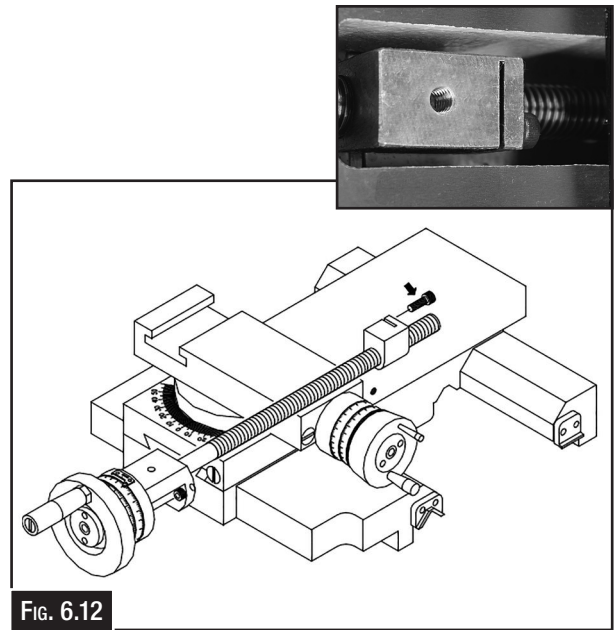

FIG. 6.12
3. With a long hex key in the cap head screw, make only small adjustment. Operating the cross slide several times by hand to be sure of smooth operation throughout the travel. (Fig. 6.12)